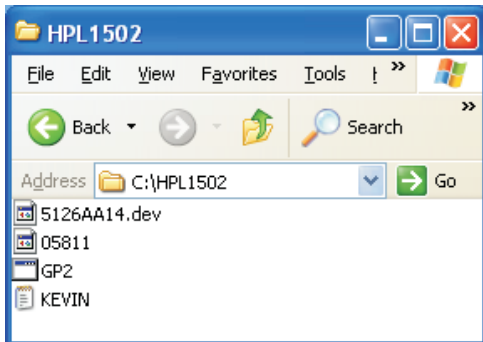

Fig. 2
Step 1 : Make a folder in your PC as shown in Fig. 2.
Step 2 : Copy ISP Software (HPL1502..zip) into your folder as shown in Fig.2.
Step 3 : Unzip isp.zip into your folder as shown in Fig. 2.